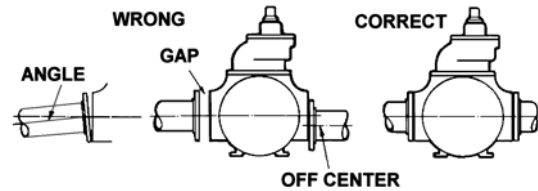

Figure 2
4. Check alignment of pipes to pump to avoid strains which might later cause misalignment. See Figure 2. Unbolt flanges or break union joints. Pipes should not spring away or drop down. After pump has been in operation for a week or two, completely recheck alignment.